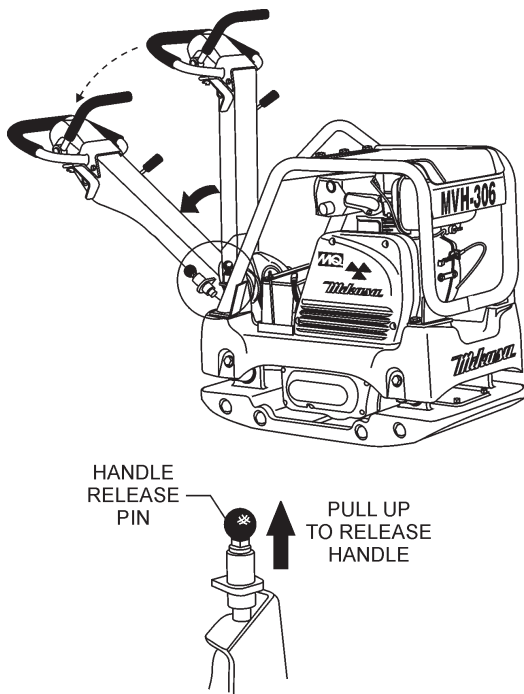

Figure 13. Handle Release Pin
1. Pull the handle release pin, (Figure 13) then push down on the hand grip to release the handle.